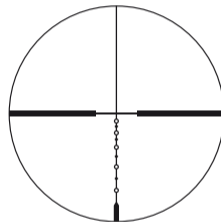
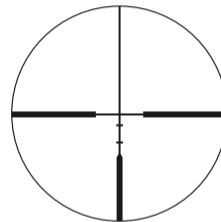

Fig. 3-1
Fig. 3-2
(1) Focusing
- 1 Look through the eyepiece with your eye positioned about 4 in. (10 cm) away from the eyepiece to see the BDC 600 reticle (Fig. 3-1) or the BDC Carbine reticle (Fig. 3-2).